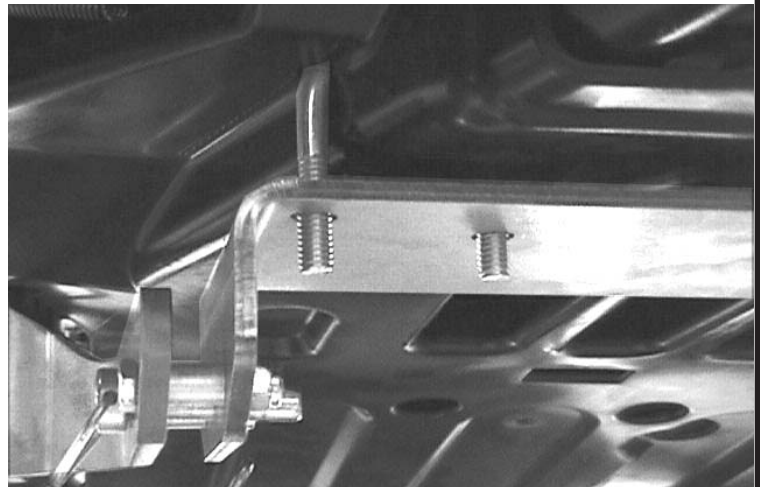

Figure 4
- Place the two 1-1/2" width U-bolts over the chassis tubing, through the skidplate, and through the crossmember as shown in figure 4. Drill more material off the skidplate if necessary. Now attach the four 5/16" nuts and flat washers to the U-bolts and tighten snugly but not overtighten.